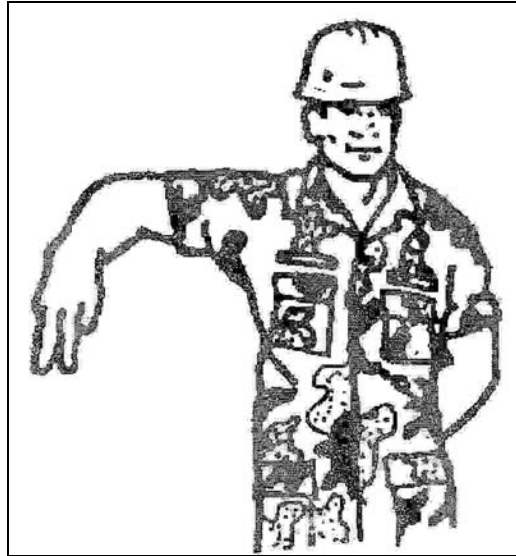

Figure 3-83. Tilt Load Forward
5. Use the signal to indicate TILT LOAD FORWARD (see Figure 3-83).